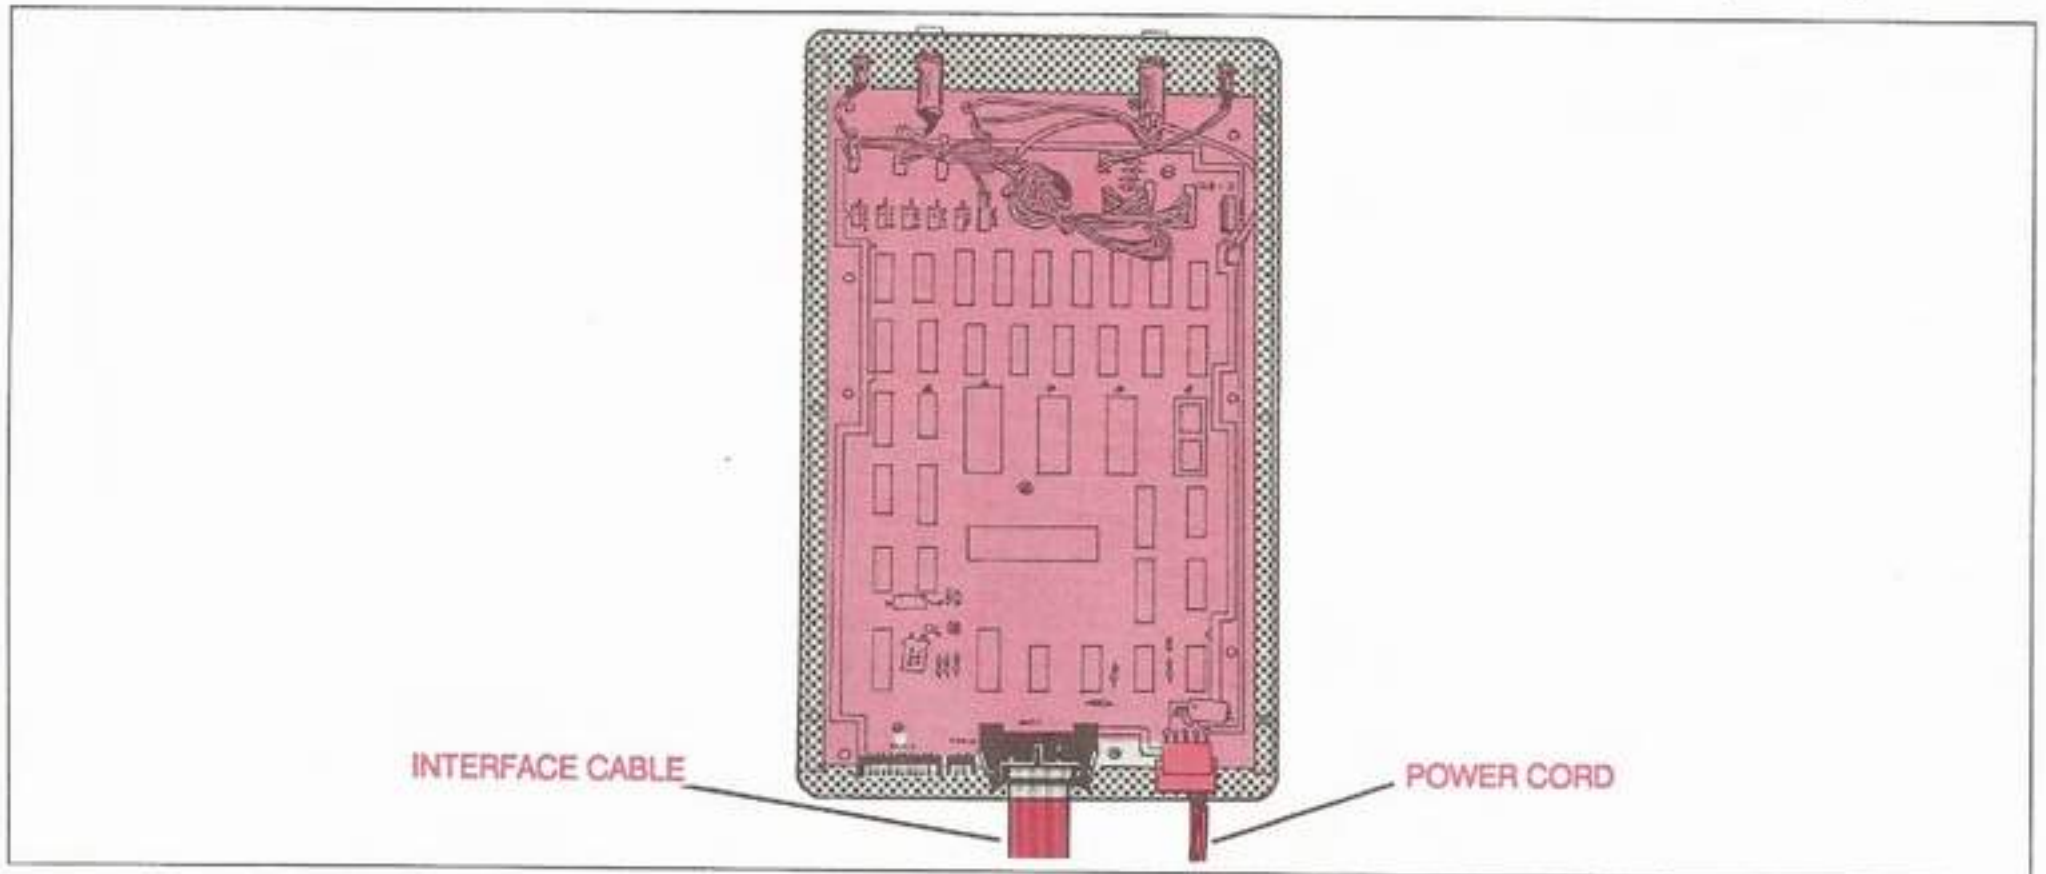

Fig. 87: Pro-Arm with Base Up
- ___ a. With the power cord and the interface cable still connected to the Pro-Arm, carefully set the Pro-Arm on its back, as shown in Fig. 87.
- ___ a. With the power cord and the interface cable still connected to the Pro-Arm, carefully set the Pro-Arm on its back, as shown in Fig. 87. **Caution: DO NOT pull or crimp the power or interface cables. They must continue to operate during the remainder of this exploration.**